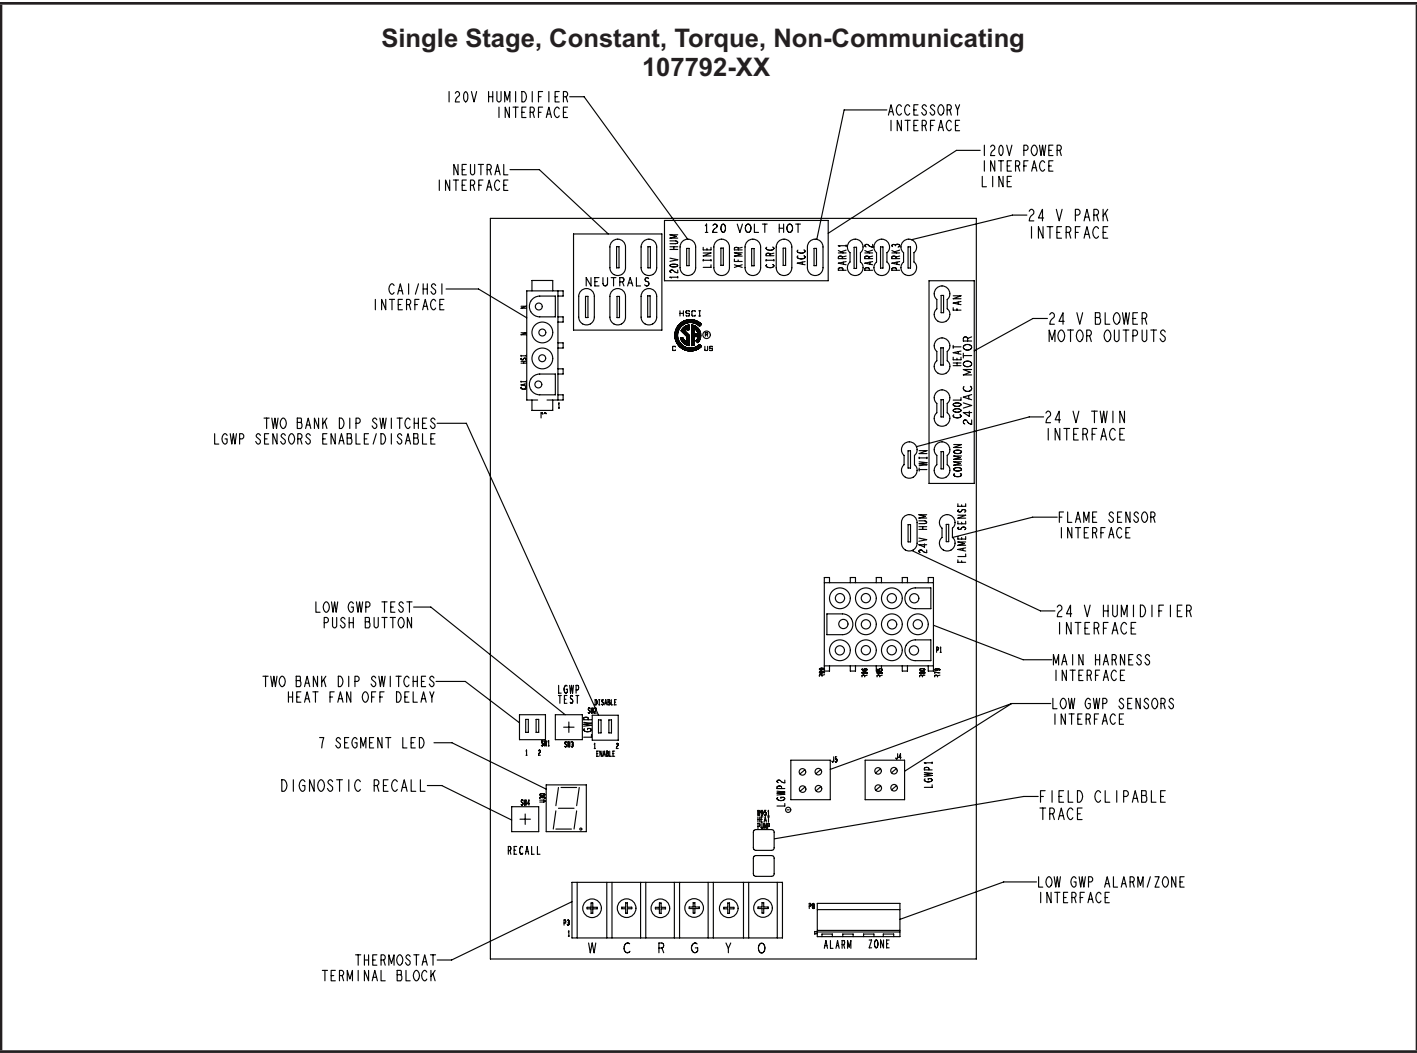

FIGURE 3
4. Ignition Control (A92) 107792-XX FIGURE 3
Accessory Terminals FIGURE 3
ON BOARD LINKS (FIGURE 4 and FIGURE 5) DIAGNOSTIC PUSH BUTTON (FIGURE 3)
The hot surface ignition control system consisting of an integrated control (FIGURE 3 with control terminal designations in TABLE 1, TABLE 2 and TABLE 3), sensor and ignitor (FIGURE 7). The integrated control and ignitor work in combination to ensure furnace ignition and ignitor durability. The integrated control, controls all major furnace operations. The integrated control also features a RED LED for troubleshooting and two accessory terminals rated at (1) one amp. See TABLE 4. for troubleshooting diagnostic codes. The nitride ignitor is made from a non-porous, high strength proprietary ceramic material that provides long life and trouble free maintenance.